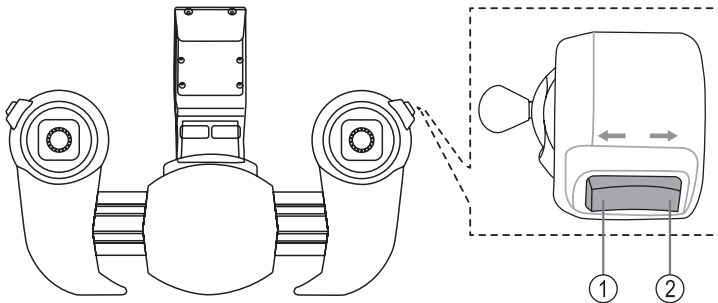

Figure 10
The model can be started and landed by pushing a button. For this, put the ready-to-start quadcopter onto a level surface at a sufficient distance from the pilot (see notes above). To start, simply push the corresponding button at the transmitter (see figure 10, item 1). The rotors at the model will start up at once, and the quadcopter will rise vertically up to hover before you at approx. 1.5 - 2 metres height. Now you can perform flight operation by the corresponding control movements at the transmitter.
For landing, find a suitable landing place (see notes above), put the model into stable hover flight and to a flight altitude of ideally max. 1.5 metres. Now push the corresponding button (see figure 10, item 2). The model will initiate landing right after this, reduce height vertically and switch off the rotors on the ground.